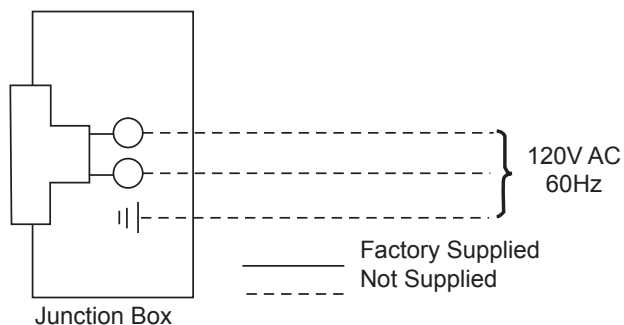

**Figure 34 -
3. The junction box cover has a factory installed "romex" style strain relief connector. After connecting the wires, route the wire leads through this connector. Refer to the wiring diagram in *Figure 34*.